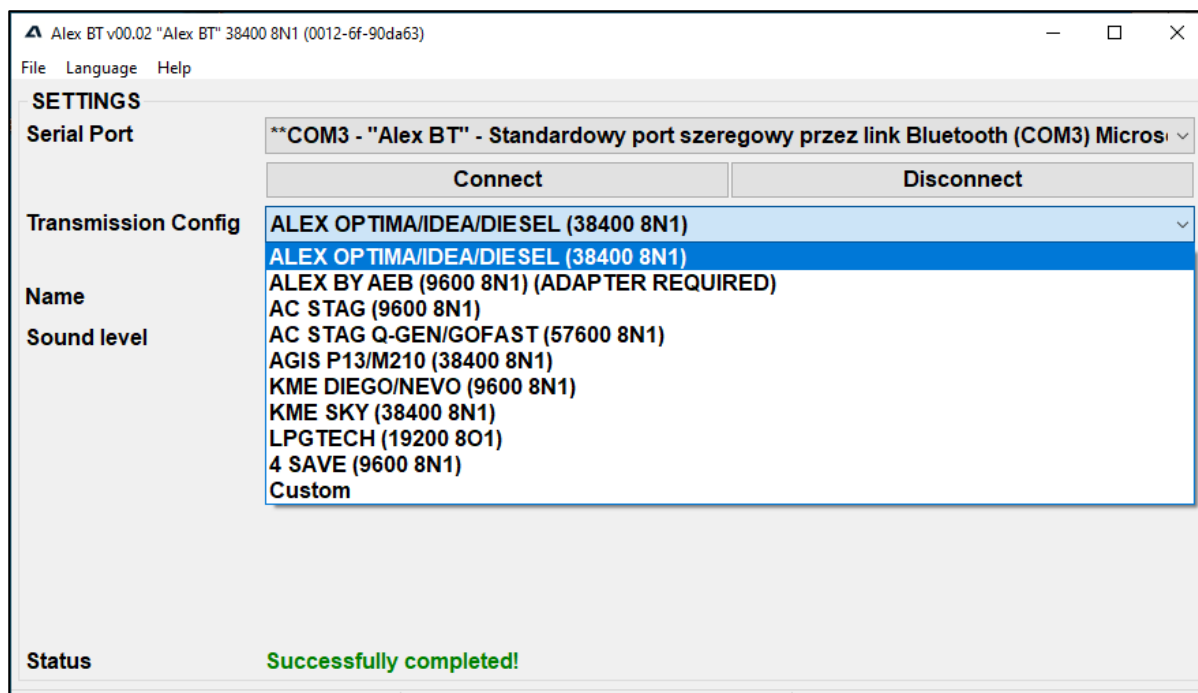
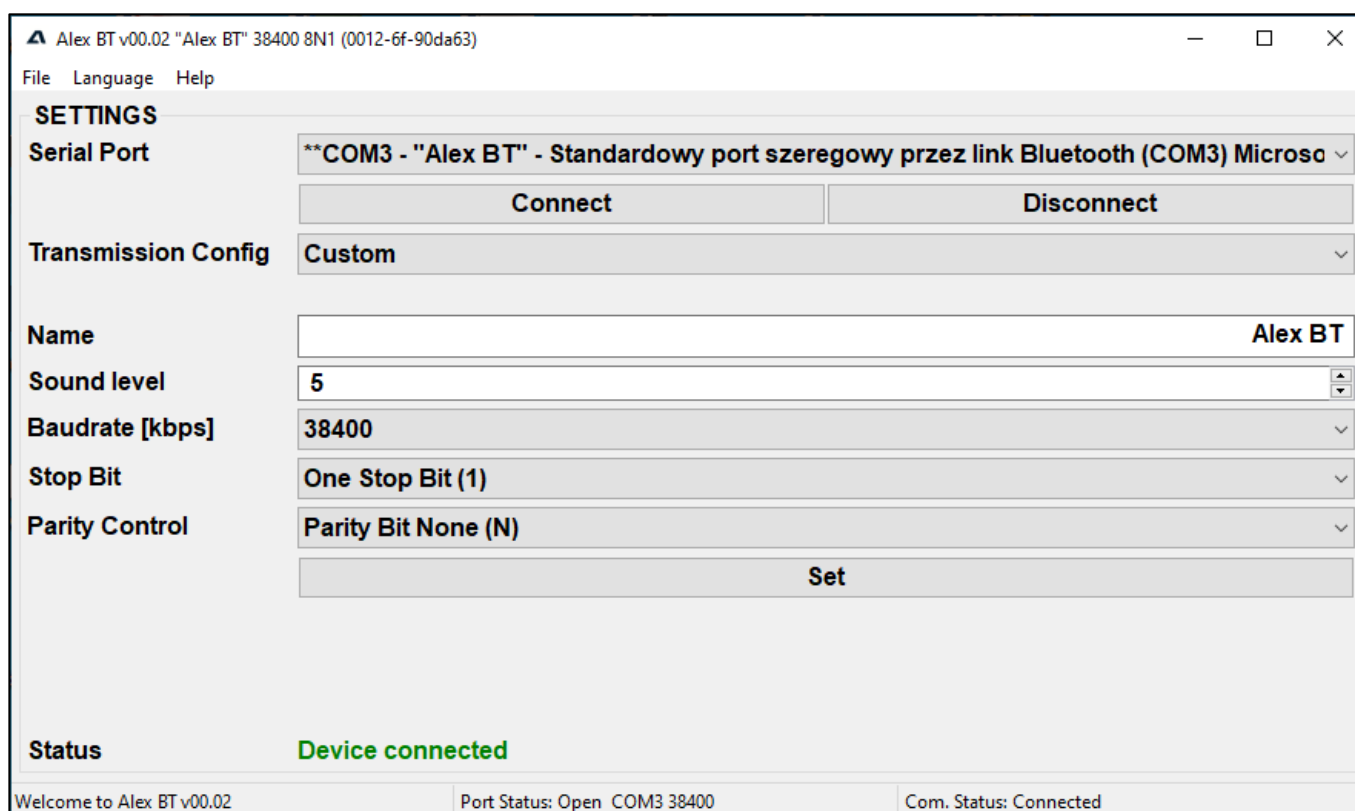
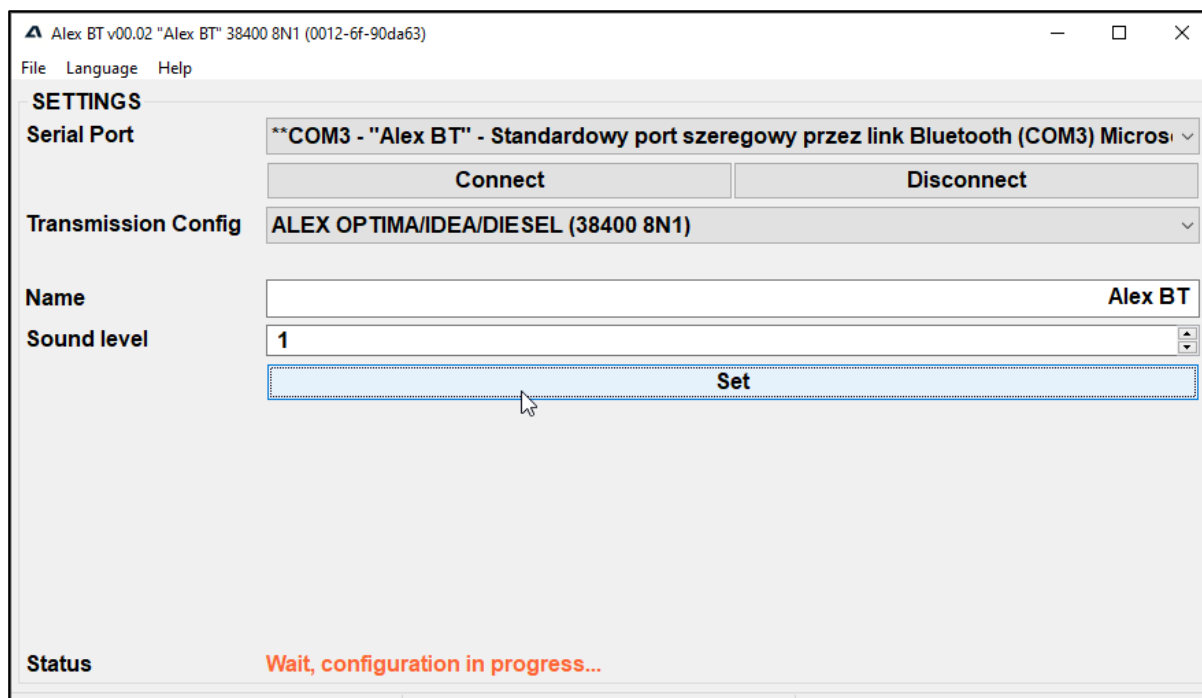

Fig. 13 Selecting the desired data transmission configuration in the configuration software.
Fig. 14 Possibility to freely set the transmission parameters - "Own" settings.
Fig. 15 Signaling of the ALEX BT interface configuration process.
3. After correct connection, you can change the transmission parameters, device name and volume. The program includes a set of transmission parameters, depending on the type of gas installation (Fig. 13). You can also select the "Own" option from the "Transmission Settings" list and manually select the required parameters (Fig. 14). After selecting the desired settings, press the "Set" button to start the configuration process. "Status" will be changed to "Please wait, configuration in progress ..." (Fig. 15).